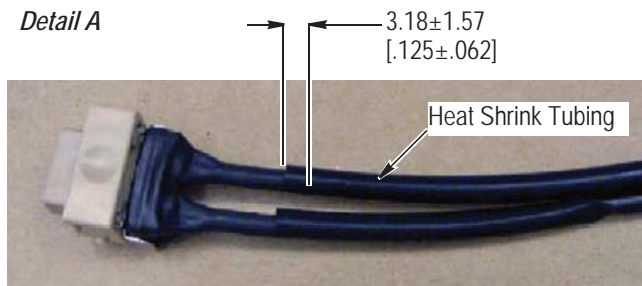

Figure 16
- p. Position the two heat shrink tubings onto the data cable bundles so that one end overlaps the boot leg from the rear end of the plug connector to the dimension given in Figure 16, Detail A. Completely recover the heat shrink tubing in place so that no visible “chill marks” remain. See Figure 16, Details B and C.